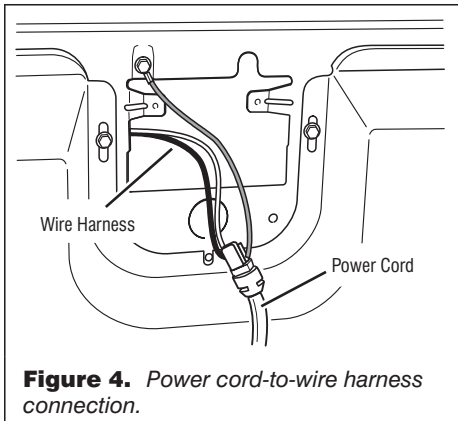
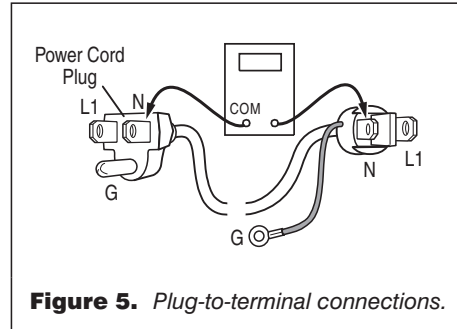

Figure 4. Power cord-to-wire harness connection.
Figure 5. Plug-to-terminal connections.
3. Check that the power cord is firmly connected to the dryer's wire harness. See figure 4.
5. With an ohmmeter, check for continuity between the neutral (N) terminal of the plug and P8-3 (white wire) on the machine control board. The left-hand side of figure 5 shows the position of the neutral terminal (N) on the power cord plug. Also see figure 16, page 11.
- If there is no continuity, disconnect the white wire of the harness from the power cord at the location illustrated in figure 4. Test the continuity of the power cord neutral wire as illustrated in figure 5. If an
- If there is no continuity, check the continuity of the power cord in a similar way to that illustrated in figure 5, but for power cord's L1 wire.